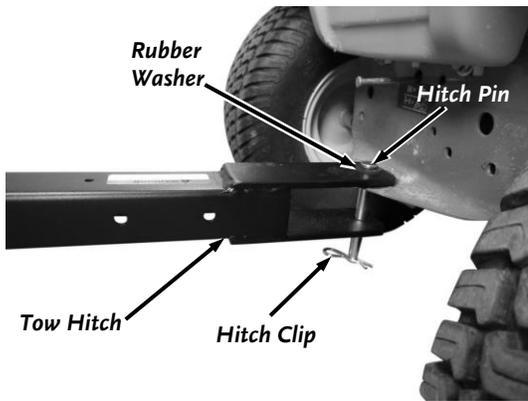

Figure 79
9. Disconnect the Tow Hitch from the Tow Vehicle and keep the Hitch Pin, Rubber Washer and Hitch Clip for securing the Flatbed Trailer in the next section (Figure 79).